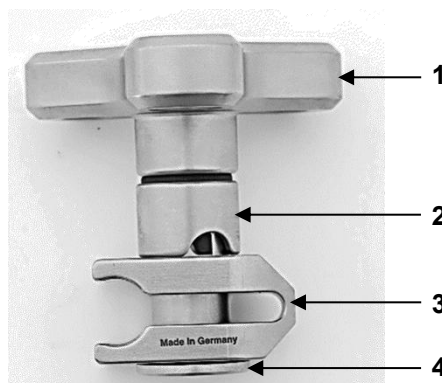

Fig. 5: Cross connector EEN-4
Figure 5 shows the EEN-4 cross connector. It consists of a star grip handle (1), a clamping sleeve (2), a clamping piece (3) and a threaded rod (4).